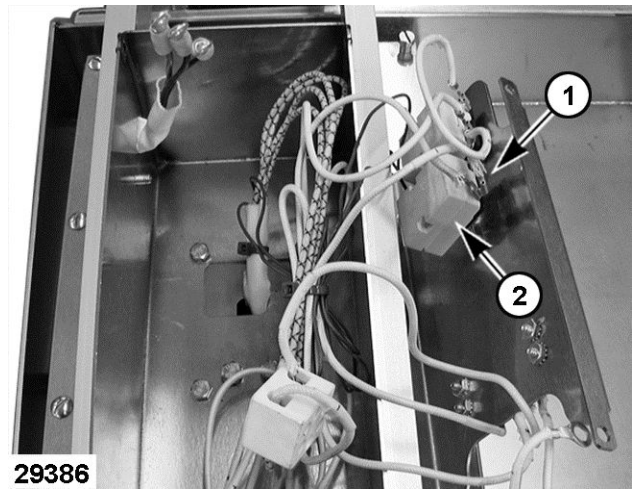

Fig. 33
2. Note wire locations (1, Fig. 33) and disconnect from high limit (2, Fig. 33).